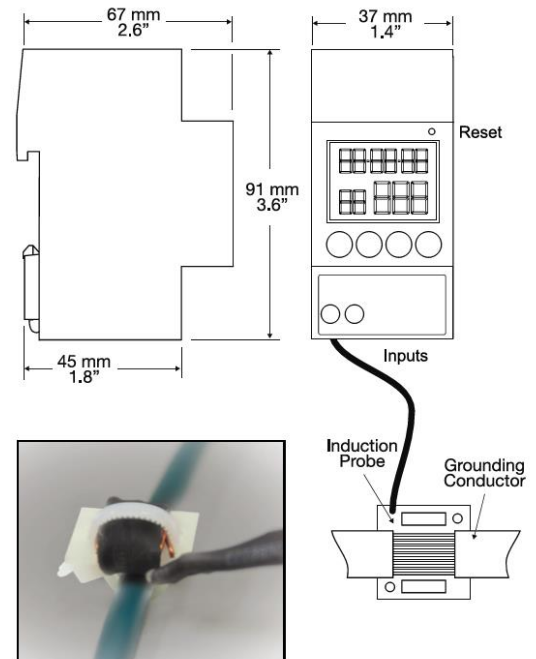

Figure 1 – Correct Installation
1. Install the I²R SSR on a 35mm DIN rail, attach the surge current inductive probe to the surge current discharge path (Ground or Earth Conductor) using the included plastic tie wrap. **Important:** the connection between the inductive probe and the grounding conductor must be secure. Refer to Figure 1 for proper orientation of the probe. Incorrect installation will affect the sensitivity of the counter and its overall performance. Use special care routing the wire leads to ensure there are no loops or sharp bends.